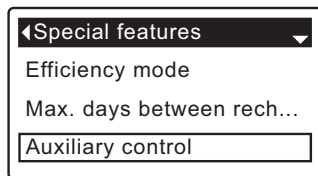

FIG. 79
1. From any of the rolling status screens, press the SELECT (O) button to display the **Main menu**.
3. Press the SELECT (O) button to display the Advanced settings menu.
5. Press the SELECT (O) button to display the Special features menu (See Figure 79).
9. Press the SELECT (O) button. The display will go back to the Special features menu (Figure 79).